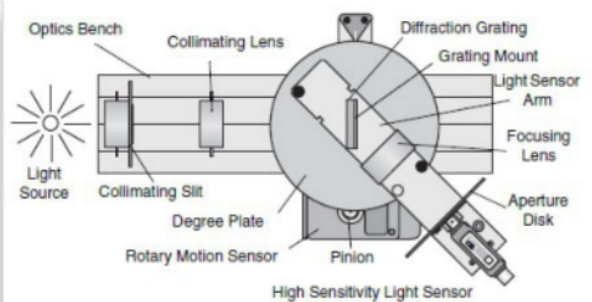

Figure 3: Spectrophotometer System (top view)
2. Collimating the system: the Collimating Slit must be at the focal point of the first lens and the Sensor Mask and Aperture Disk must be at the focal point of the second lens. Move the spectroscopy table back to the end of the track it is out of the way. Place the Blackbody Light Source near the end of the track and the Collimating Slit near the blackbody light source. Move the Collimating Lens (see figure 3 above at least 12 cm from the slit. Have someone with 20/20 vision (corrected by glasses is fine) look through the lens at the slit. Move the lens toward the slit until it first comes into sharp focus. The slit should be about 10 cm from the lens. Now move the spectroscopy table as close to the Collimating Lens as possible. Set the Focusing lens 10 cm from the Sensor Mask. We will adjust this more exactly later.